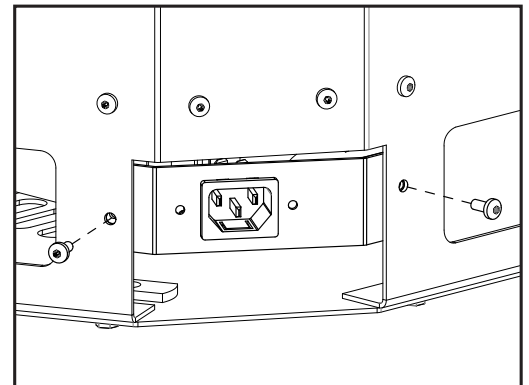

Figure 85: Electrical Plug Disconnect
1. Disconnect the IEC outlet plate (see Figure 85).